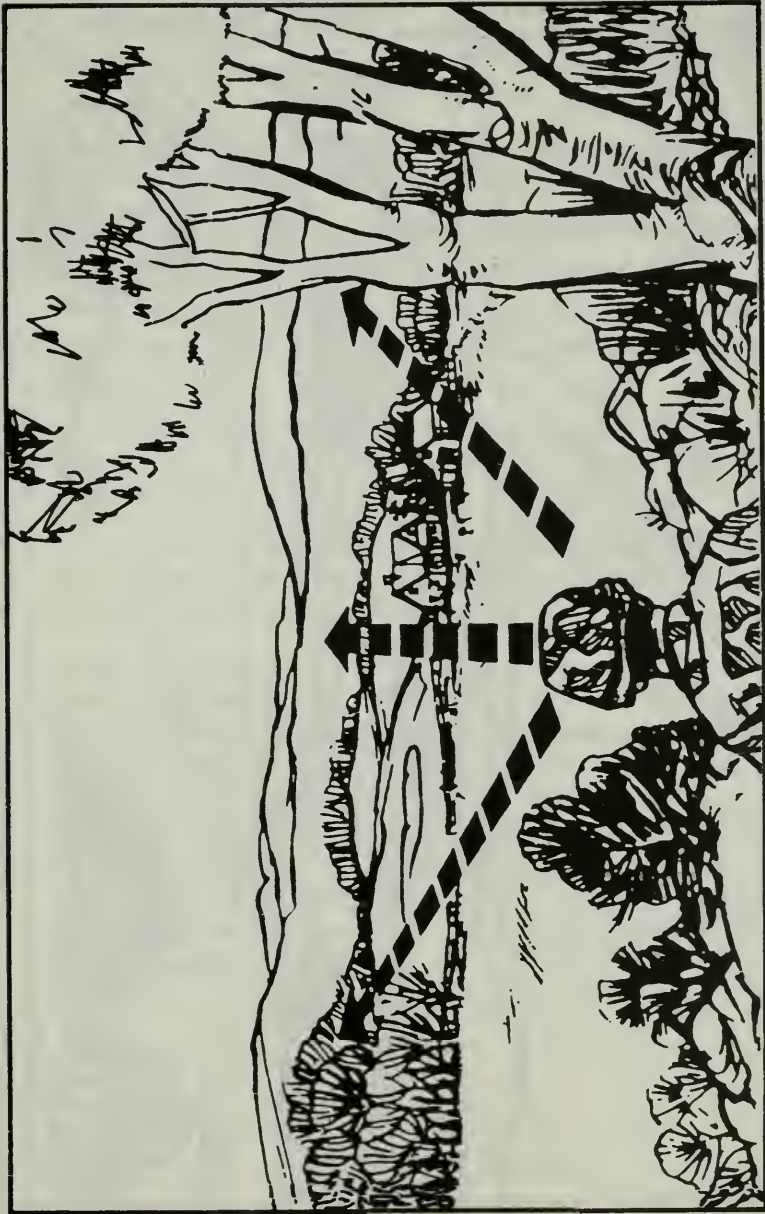

Figure 229. Fast overall search.
- a. Make a fast overall search of the entire area by quickly raising your eyes from just in front of your position to the maximum range you wish to observe (Figure 229). (For a wide area, subdivide and repeat procedure.)